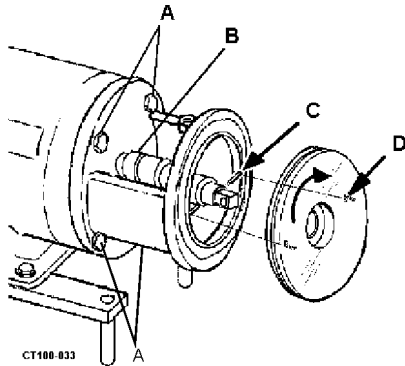

Figure 22 - Adaptor Installation
1. Install the adapter to the motor, with the drain cavity at the bottom. Insert the four bolts to secure the adapter to the motor. Tighten the bolts. (See Figure 22 item A).
3. Place the stub-shaft assembly onto the motor shaft. (See Figure 22 item B). **Do not tighten the shaft set screws.**
4. Install the backplate on the adaptor and rotate until the backplate pins engage the adaptor pins, (See Figure 22 item D and C) assuring solid contact of the backplate to the adaptor.